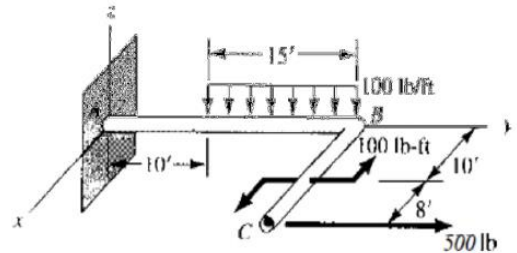

figure 2
2. Find the supporting force and couple-moment system for the cantilever beam (Fig. 2). What is the force and couple-moment system transmitted through a cross section of the beam at B?